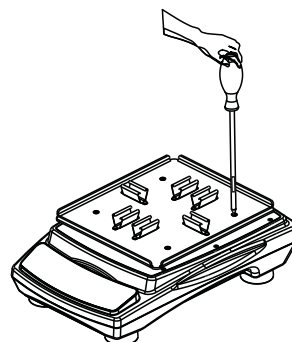
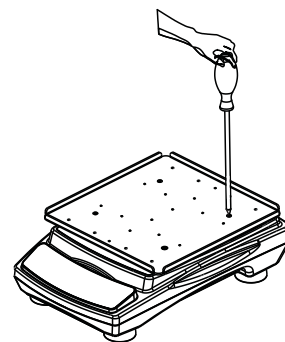

figure 1
figure 2
1. Loosen the screws of the tray with a cross screwdriver (figure 1), and replace the standard tray with platform large (figure 2).